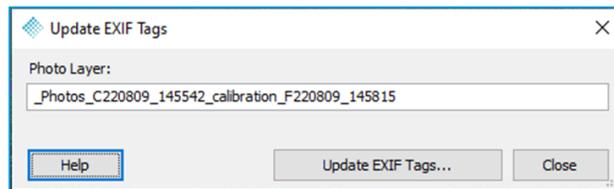

Figure 96 - Update EXIF Tags dialog
- 11. Select *Update EXIF Tags*  on the Sensor tab (Figure 95) to open the Update EXIF tags dialog (Figure 96).